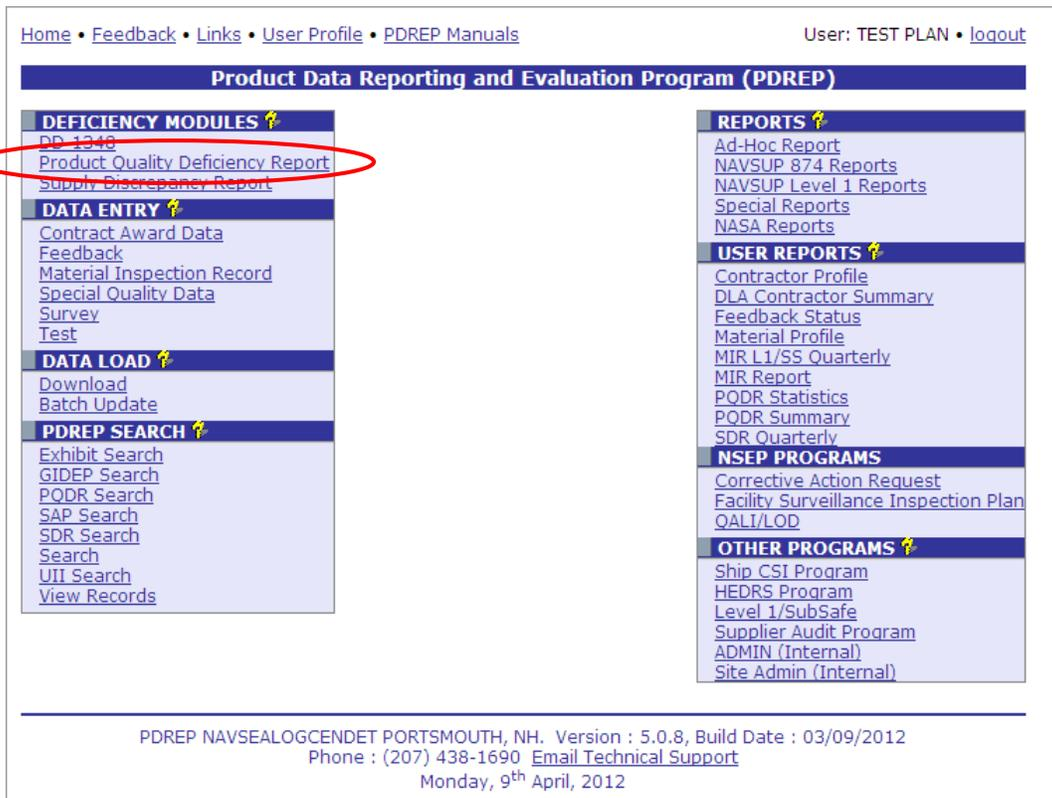

Figure 1.6
- i. After successfully logging in, the PDREP Main Menu (Figure 1.6) will display.